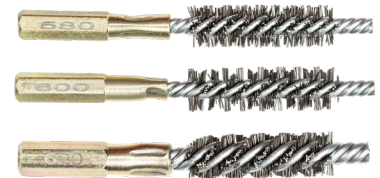

Figure 2
- The tube must be cleaned using the *Jr. Brush Kit* (*Figure 2*) before plugging.
- If the tubes are welded into the tubesheet and there are weld droops that project into the tube ID, the weld droops should be removed using a *Tapered Reamer* available from USA Industries. If the tubes are not rolled into the tubesheet, **consult USA Industries at 1-(800) 456-8721** before proceeding.